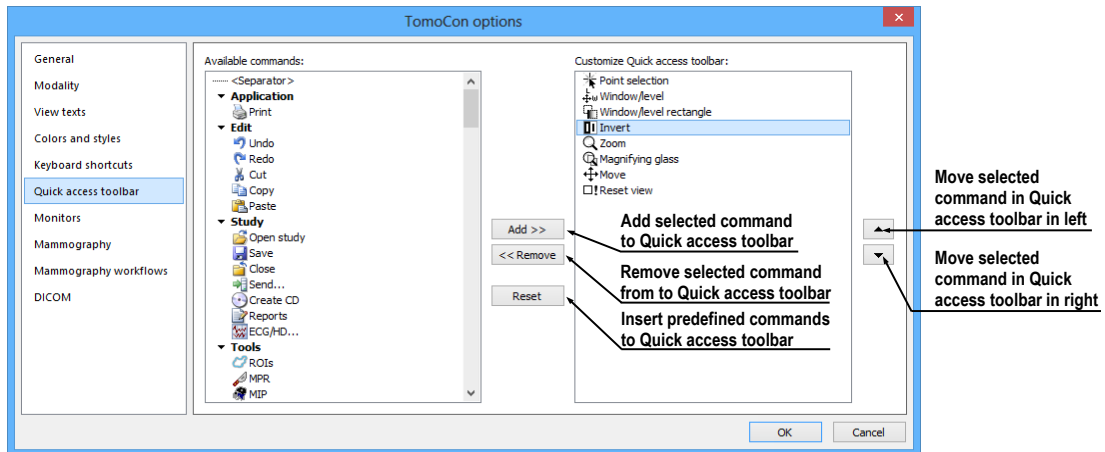

Figure 73 – Configuring the Quick access toolbar
The **Quick access toolbar** is a customizable toolbar for accessing commands in TomoCon (see Figure 73).
3. Click **Add >>** (see Figure 73).